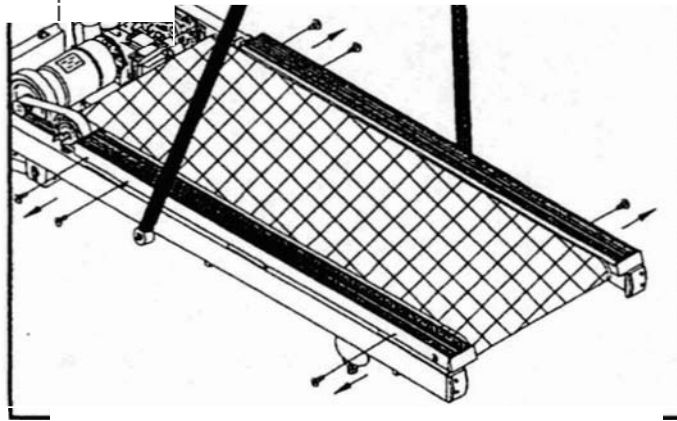

Fig.1
1. Unscrew the staging platform.(see Fig.1)